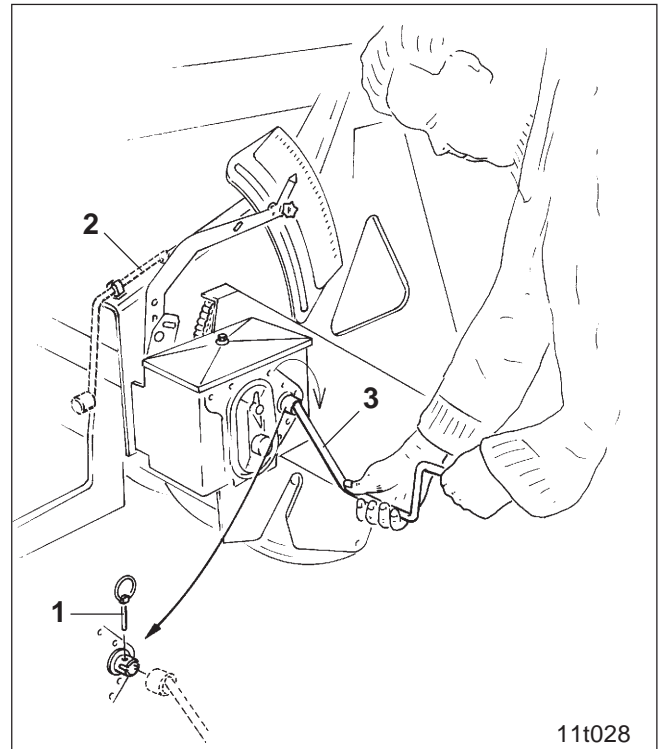

Fig. 17.3
- In order to allow a stationary calibrating of the seed tank pull the clip pin (Fig. 17.3/1) out of the gearbox hollow shaft.
- Take the crank into your hand. The calibration crank (Fig. 17.3/2) is located in a retainer on the right hand frame part.
- Insert the calibration crank (Fig. 17.3/3) into the gearbox and turn the calibration crank clockwise until all chambers of the seed metering wheel(s) have been filled and an even seed stream flows into the collecting bucket(s).
- Place calibration crank (Fig. 17.3/2) into the retainer.
- Insert clip pin (Fig. 17.3/1) into the gearbox hollow shaft.